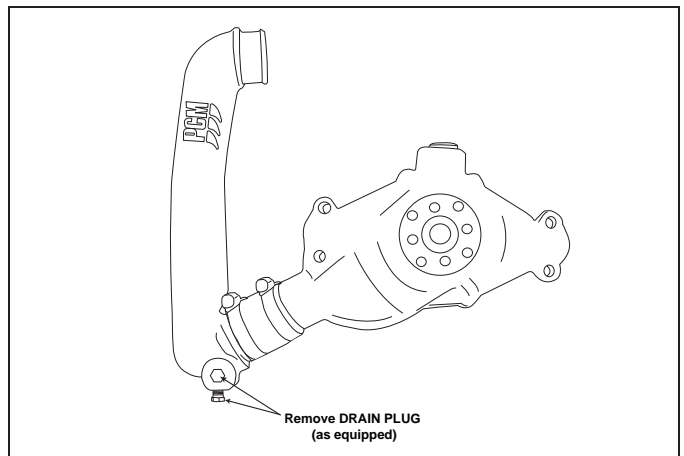

Figure 11-11 Draining Engine Circulating Pump (5.0/5.7L)
- B. Drain plug from coolant pipe as shown in Figure 11-11.
- B. Drain plug from coolant pipe as shown in Figure 11-11..